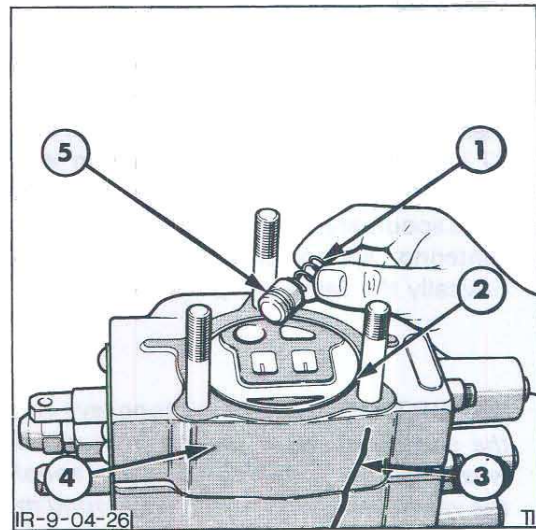

Figure 26
3. Separate the control valve by removing one section at a time, beginning with the outlet end cover. After removing a section remove the check valve spring and poppet and the large 'O' ring seal, Figure 26. Place the sections on a clean surface in order of removal.